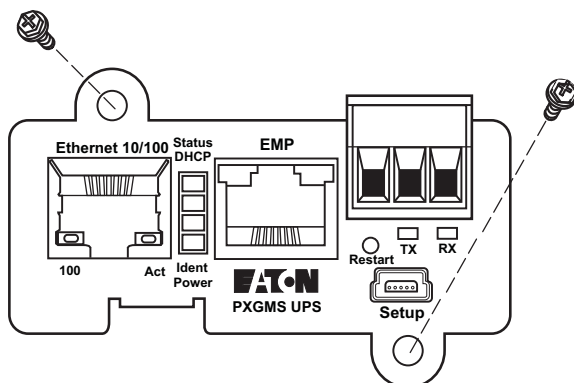

Figure 2. Secure the PXGMS Card
5. Slide the card into the open slot and secure with the screws removed in Step 2 (see Figure 2).